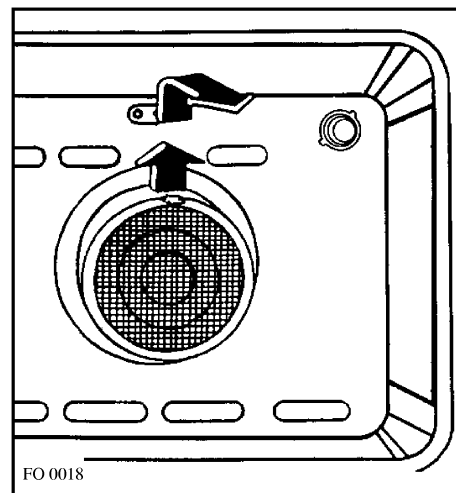

Fig. 6
- Push the protruding tongue on the filter, upward (See Fig. 6)